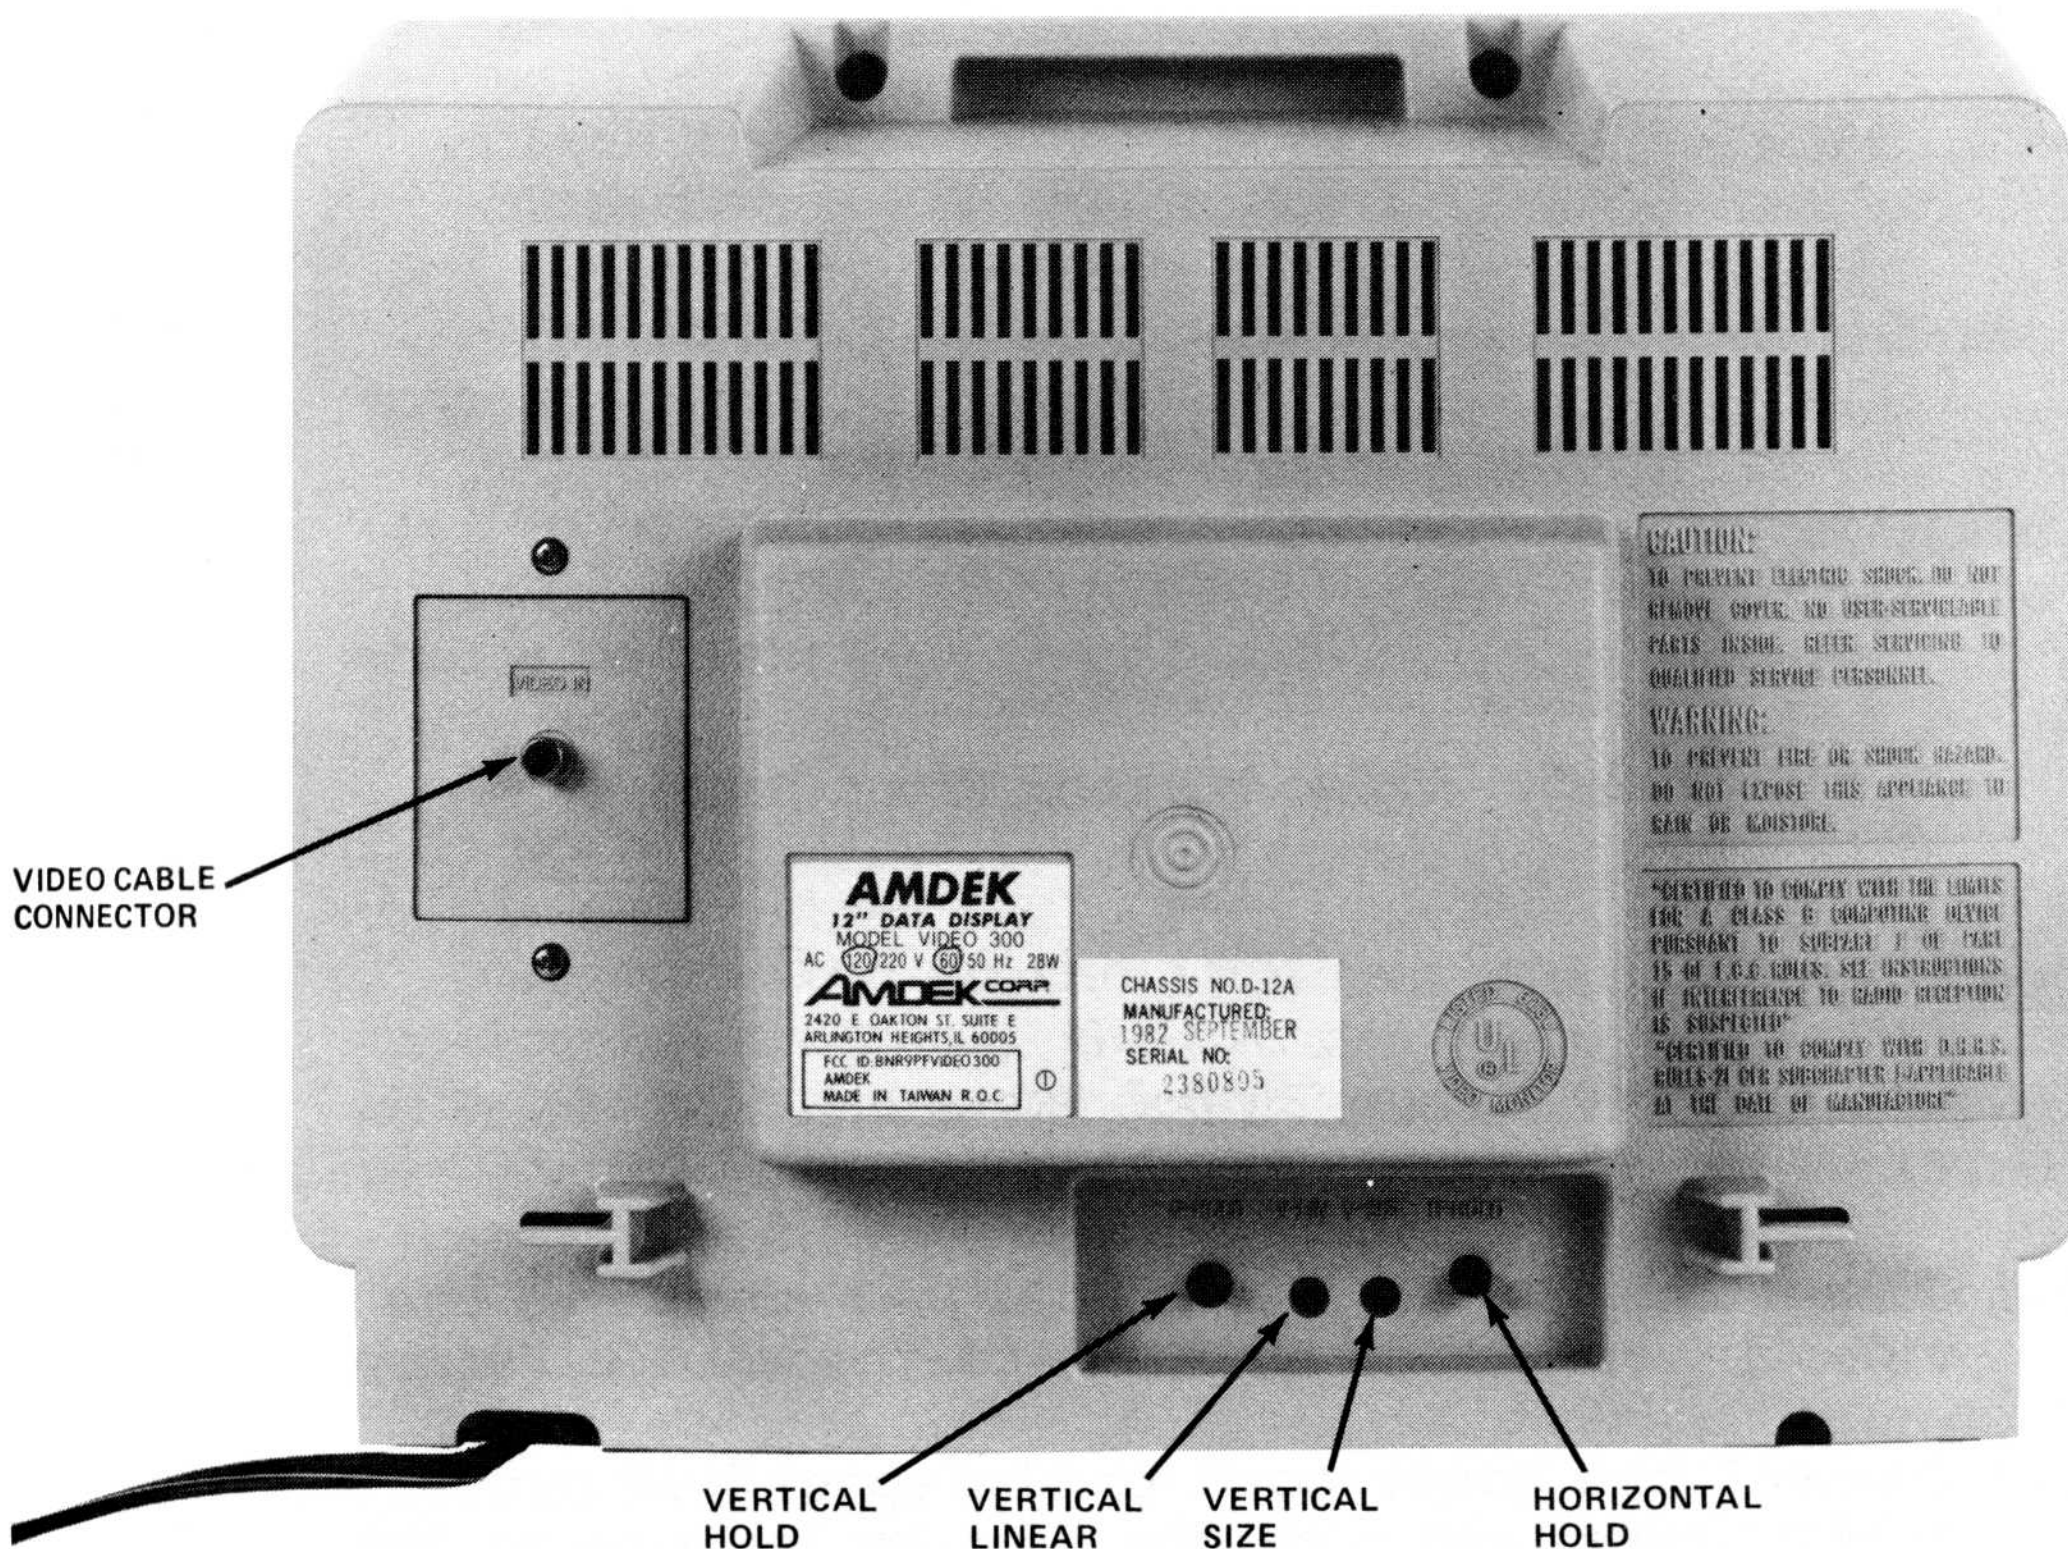

Figure 2-4. Video Monitor Back Panel
- * Turn the monochrome display unit on, and adjust as necessary (see Section 2.7.1 and Figure 2-4 and 2-5).